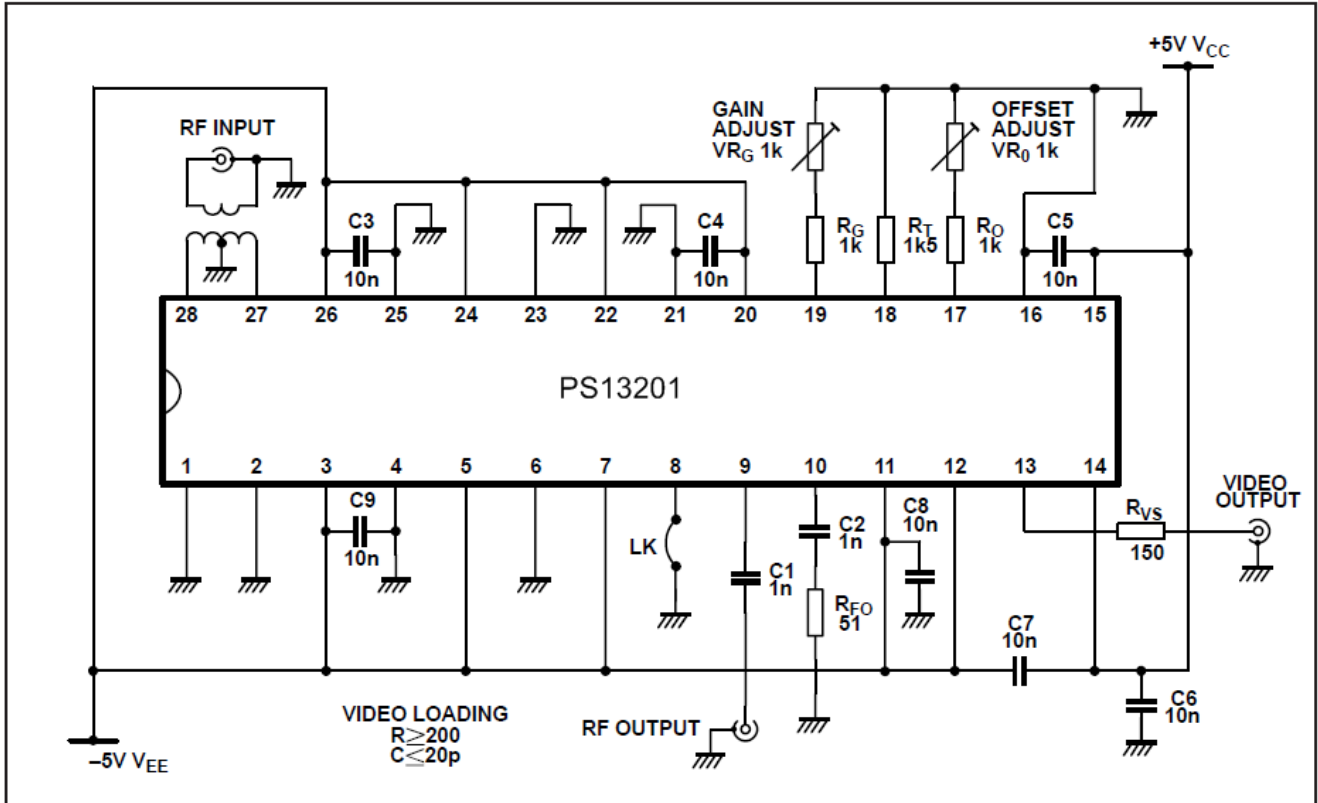
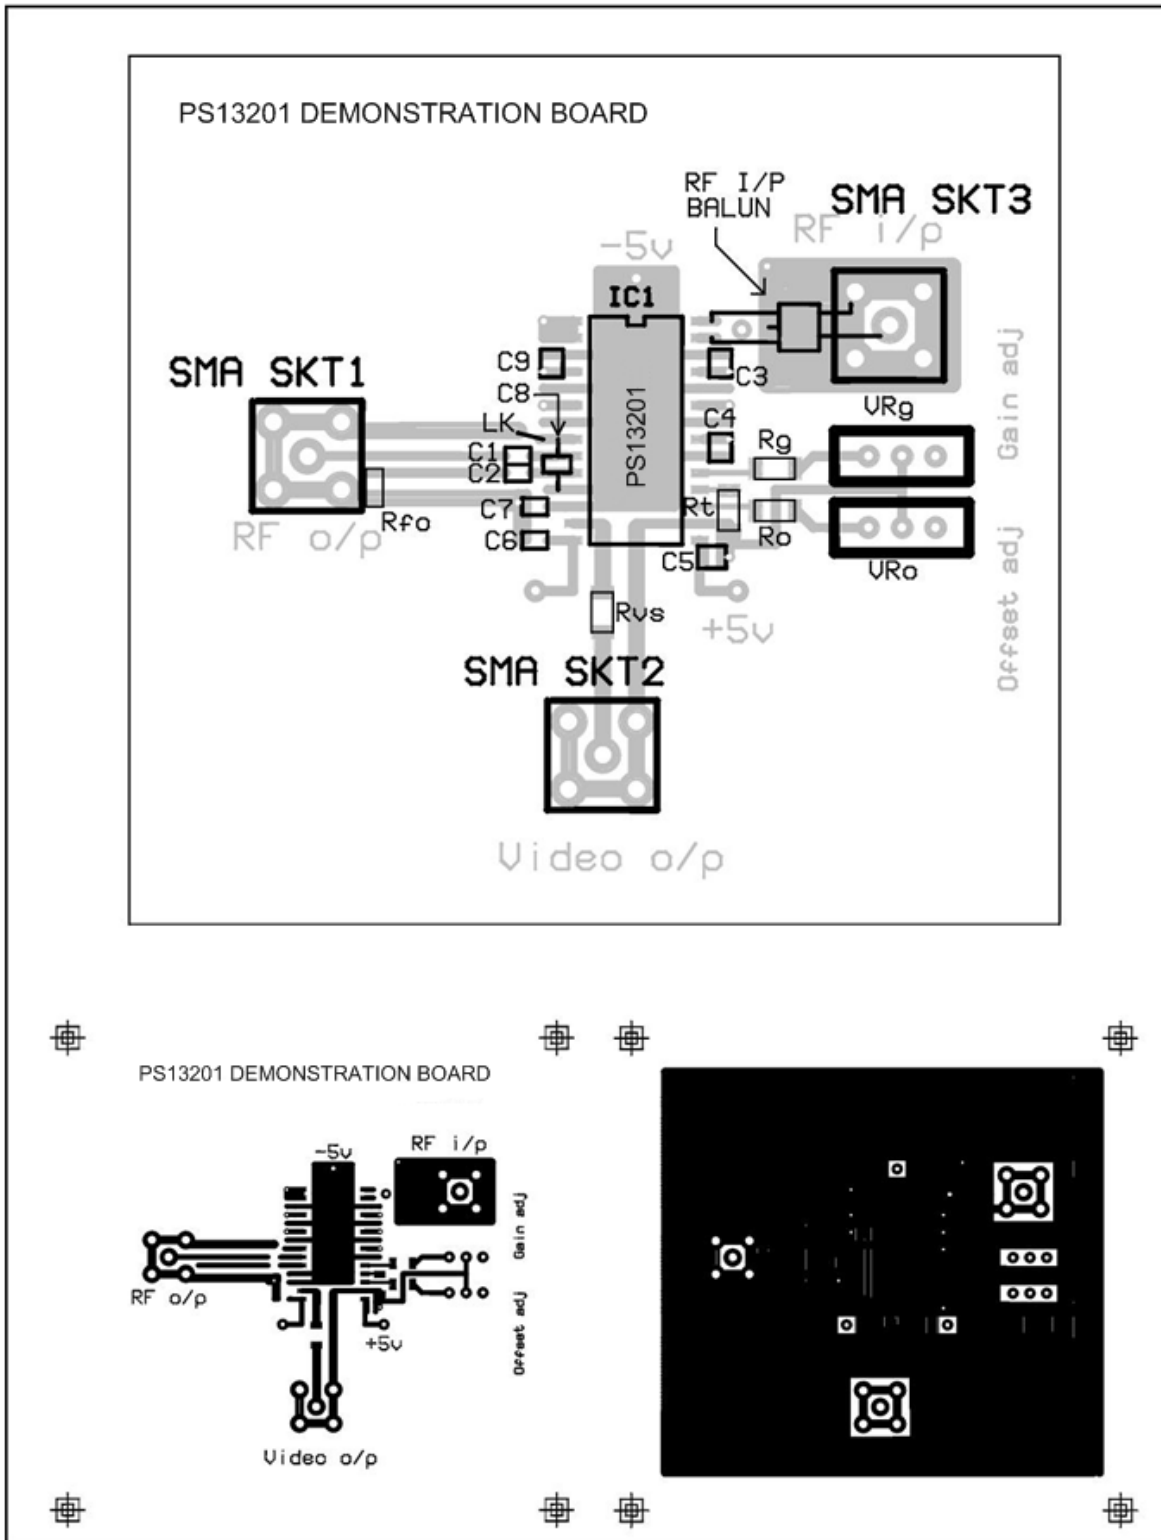
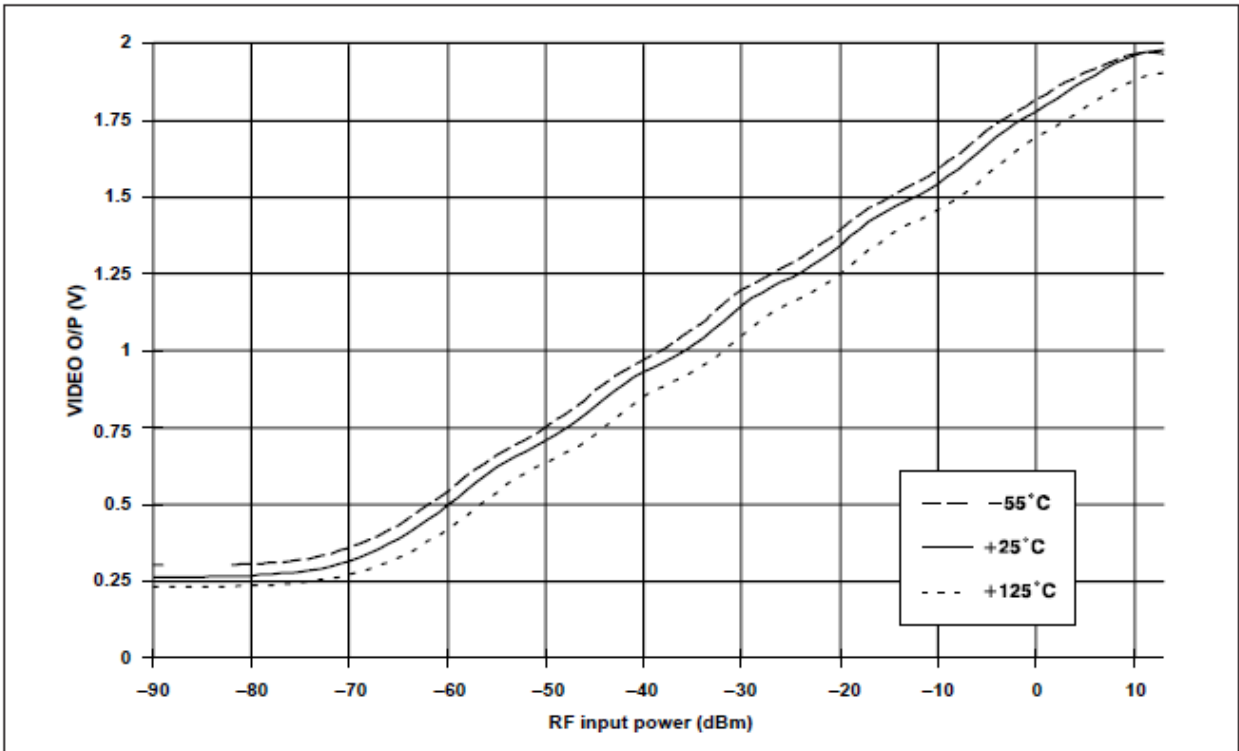
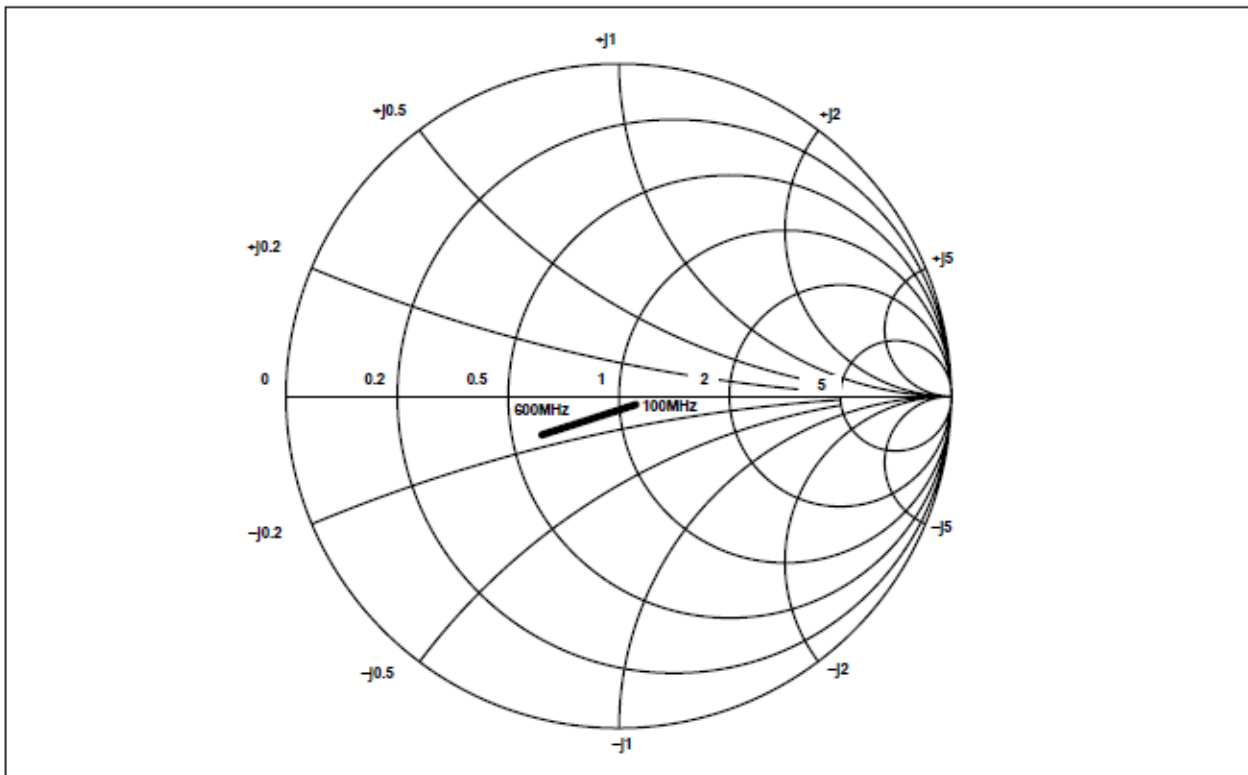

Fig. 10 PS13201 demonstration board circuit design
Fig. 11 Demonstration Circuit PCB showing component positions (2x full size) with top and bottom copper masks (full size)
Fig.12 Video O/P vs CW input level at 325MHz across temperature ($V_{CC} = +5.0V$, $V_{EE} = -5.0V$)
Fig.23 Typical input impedance normalised to 50Ω - 20dBm I/P level
The PCB layout for a "PS13201 DEMONSTRATION BOARD" in Fig. 11 has proved reliably stable. The PCB is a double layer Fibre epoxy board which uses SMDs where possible. A circuit diagram for the Demonstration PCB appears in Fig. 10.
4. The PCB is configured to accept a small surface mounting DC isolating BALUN transformer (e.g VANGUARD VE43666, available from Vanguard Electronics Company Inc, 1480 West 178th St. GARDENA, C.A. 90248, U.S.A. Tel:- U.S.A. (213) 323 – 4100) to couple a signal into the RF input connections (pins 27 and 28). It is NOT recommended to attempt operating the PS13201 with the RF Output Buffer enabled, WITHOUT using an input BALUN, although it may be possible, provided the input source impedance to both pins 27 and 28 remains balanced. The centre tap of the secondary winding of the transformer should be soldered to the small ground plane on the upper side of the PCB.
6. The RF Output Buffer can be enabled by soldering a link (LK) between pin 8 of the PS13201 and the adjacent guard track around the RF Output lines. Similarly, the buffer can be disabled by removing the same link. When the buffer is disabled, the following components can be omitted:-
11. The plots in Fig. 12 to fig. 23 are typical of the performance of PS13201 devices used with the PCB layout detailed in Fig.11.